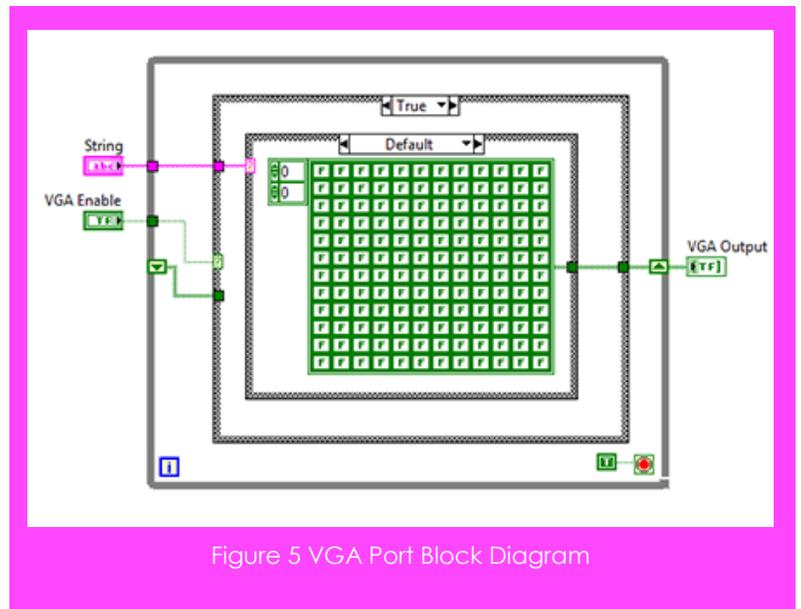

Figure 5 VGA Port Block Diagram
Step 3: Wire the String data into the case selector of the case structure you just created. Your block diagram should now look like Figure 5.